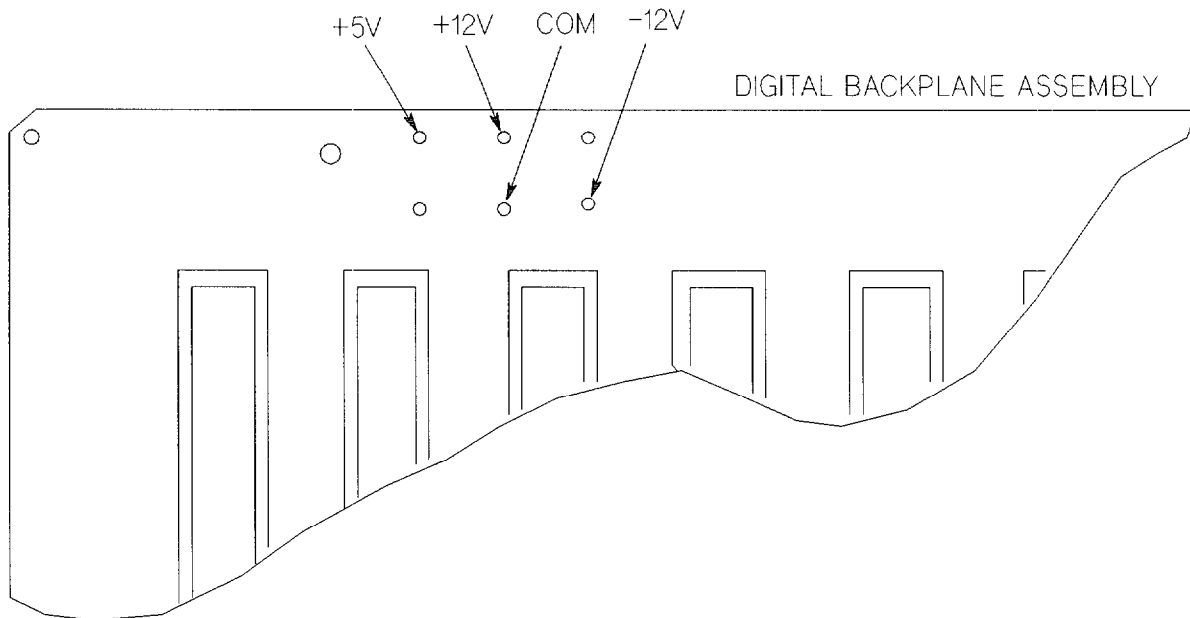

Figure 3-6. Receiver Mainframe Supply Voltage Test Points
2. Using a Digital Voltmeter (DVM) or multimeter, check the supply voltages on the digital backplane test points shown in Figure 3-6.